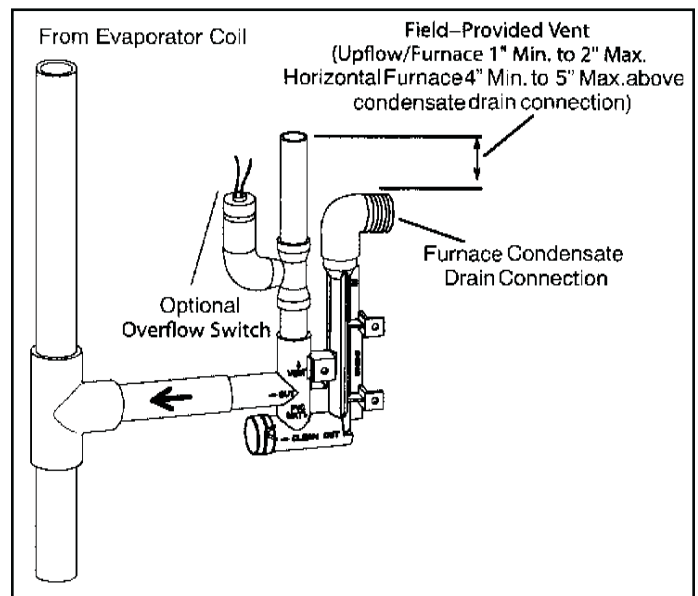

Figure 35. Condensate Trap with Optional Overflow Switch
4. Install drain trap using appropriate PVC fittings, glue all joints. Glue the provided drain trap as shown in Figure 35. Route the condensate line to an open drain.